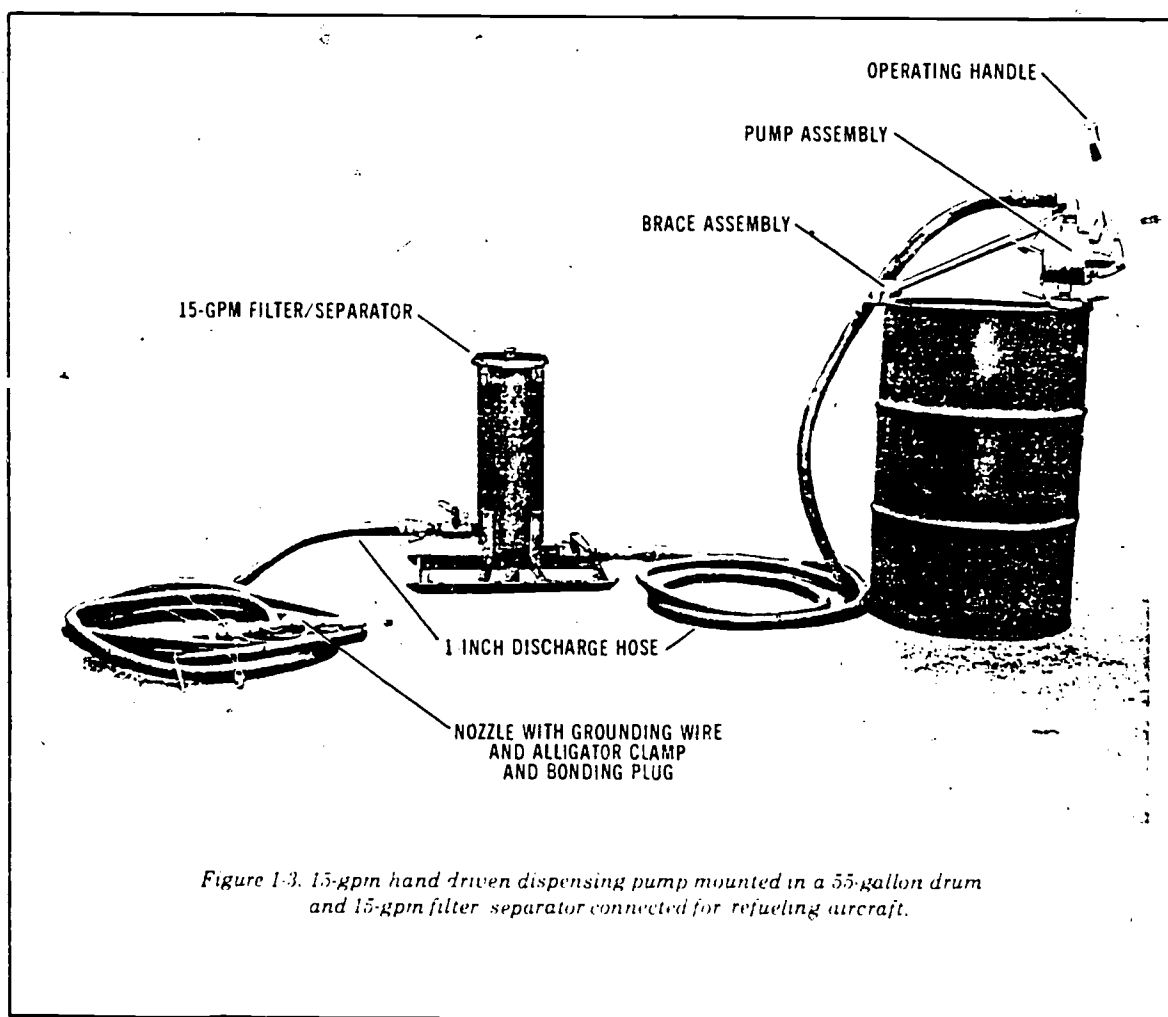

Figure 1-3. 15-gpm hand driven dispensing pump mounted in a 55-gallon drum and 15-gpm filter separator connected for refueling aircraft.
■ **Description.** This unit (fig 1-3) consists of a hand-driven, reciprocating pump, a suction stub assembly, a hose assembly, a nozzle, and a brace assembly. The pump body is mounted to the suction stub assembly, which fits into the 2-inch opening of the drum. The suction stub assembly includes a telescoping suction tube and a threaded bung adapter. The pump is operated by a push-pull action of the lever;